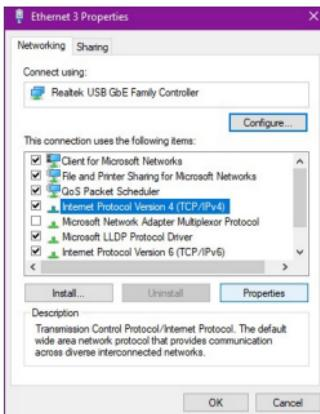

Figure 6
8. In the **Properties Window**, select **Internet Protocol Version 4 (TCP/IPv4)** and then click **Properties** to the lower right. (Figure 6)